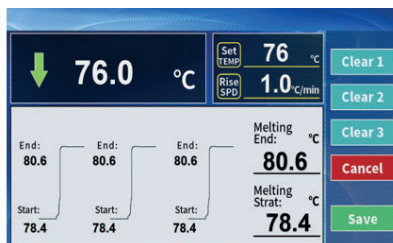

Fig. 6
7) After the instrument detects the final melting-point, the device will beep automatically return to the preset starting temperature. The screen displays the correction confirmation interface, Figure 6.